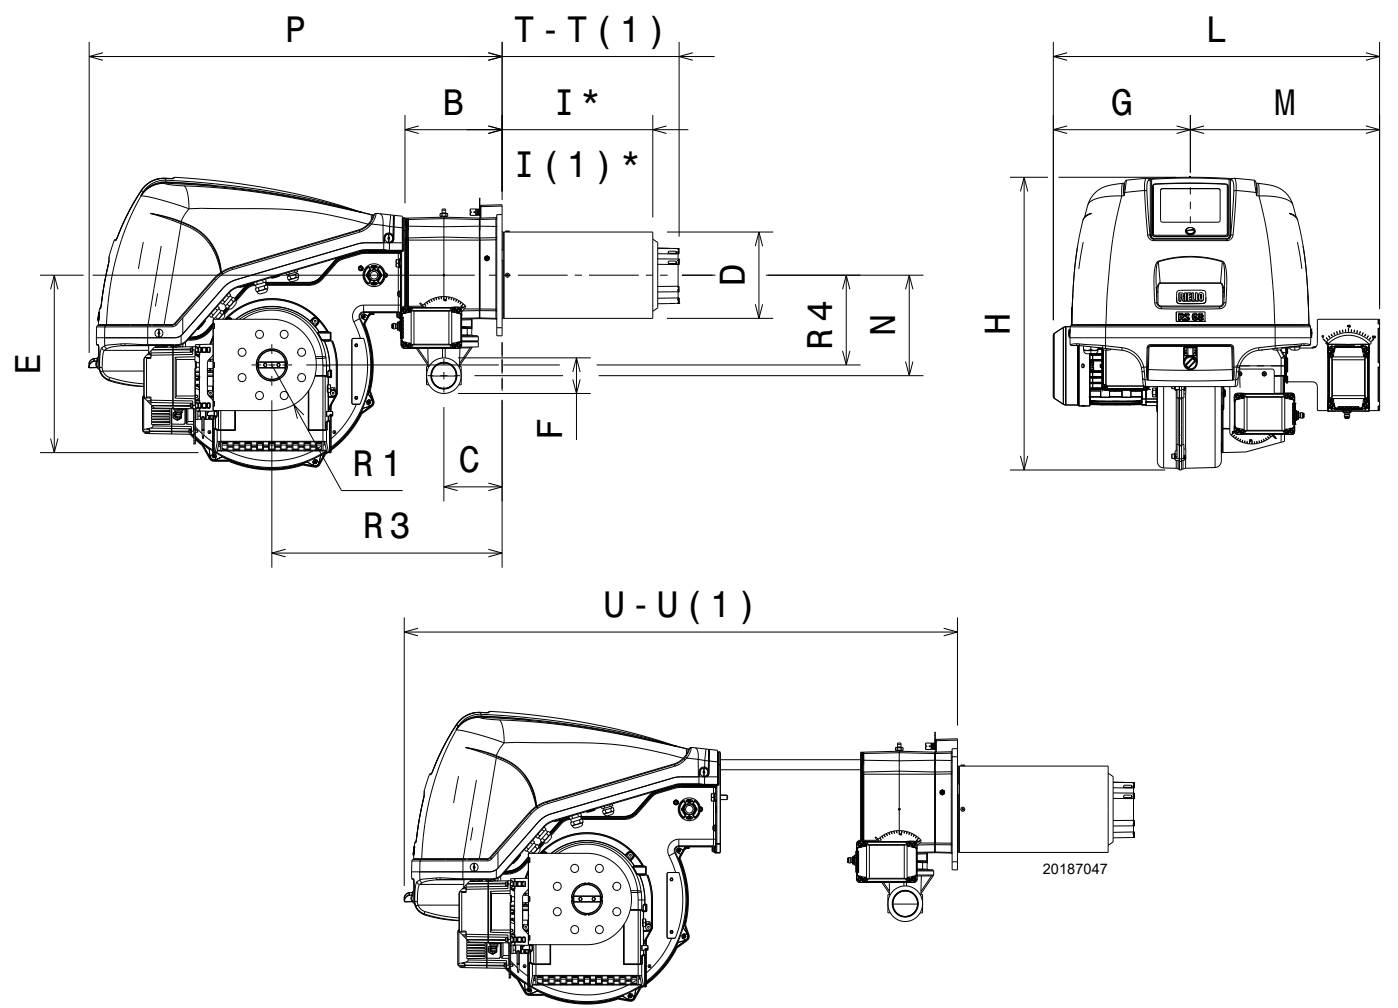

Fig. 1
The dimensions of the burner are shown in Fig. 1. The dimensions of the open burner are indicated by position I.
* The maximum depth of the boiler door is referred to dimension "I" (Fig. 1 on page 8).